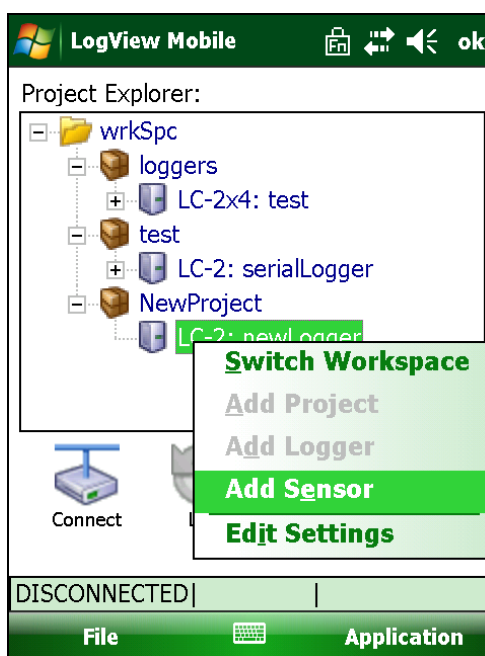

Figure 55 - Adding a Sensor
2. From the context drop-down menu, select **Add Sensor** (see Figure 55).